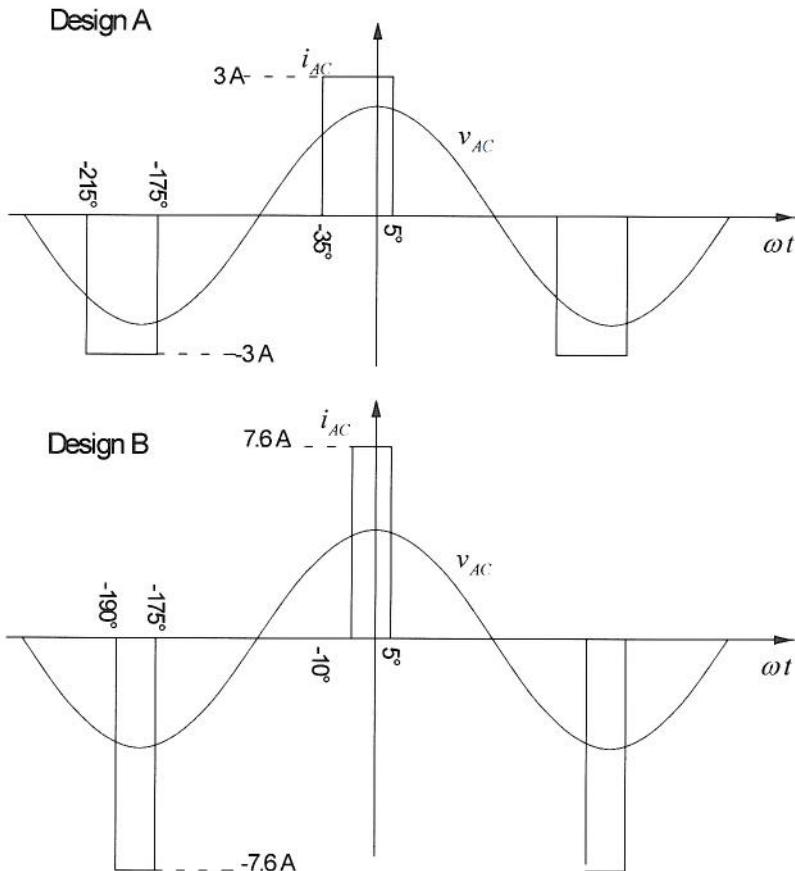

Figure Q3.2 Current waveforms from two designs of single-phase diode rectifier
- (c) A diode rectifier design has been built with two different values of DC-side capacitor. The measured AC-side input current for the two designs is composed of pulses which can be approximated as shown in Figure Q3.2. The circuits were tested with a pure cosine wave voltage applied. Determine the displacement factor and distortion factor with which the two designs operate. Comment on the power factor, real power and EMC properties of the two designs. [10]